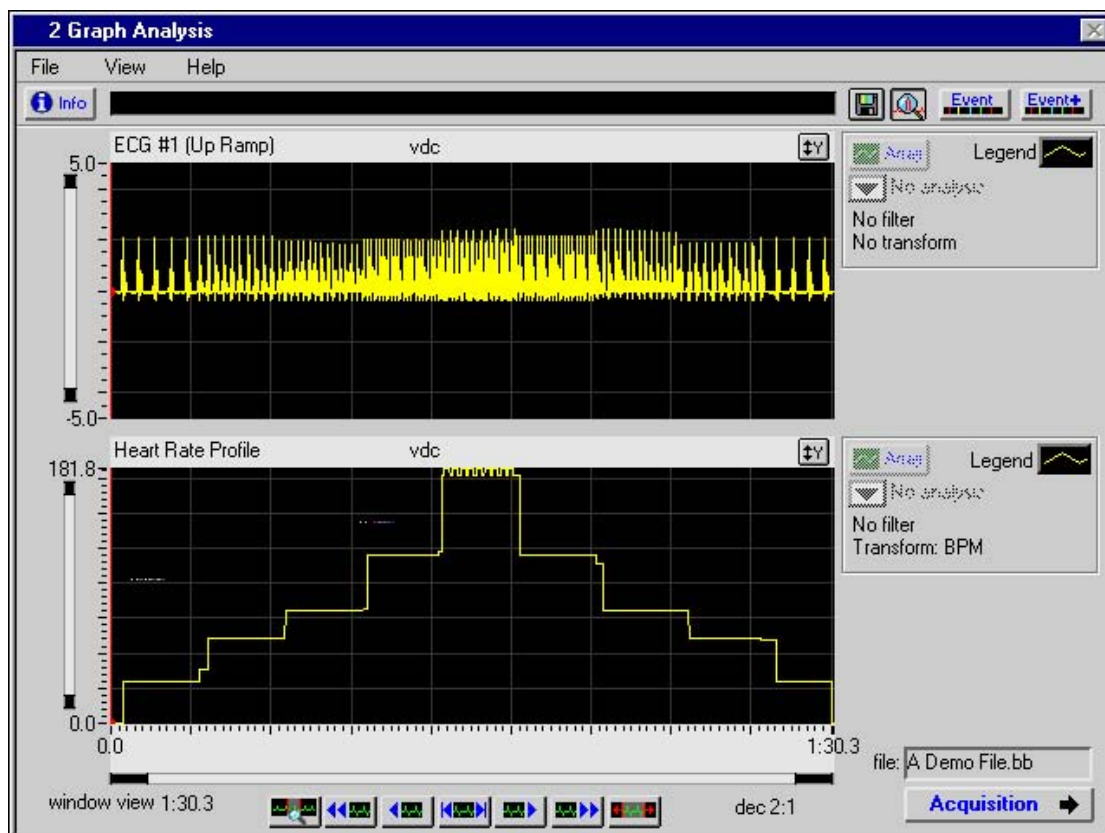

Figure B-16. Heart Rate Profile from ECG Data
6. Inspect Figure B-16 as an example of the graph of the heart rate from the ECG data. The top graph shows the raw ECG signal, while the bottom graph shows the corresponding heart rate profile. To view the entire data file, click on the middle navigation button shown to the left of this paragraph.